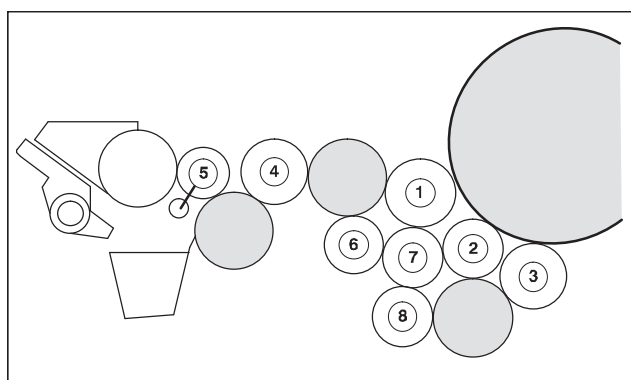

Fig. 43 Roller diagram
1. Remove the 3rd ink transfer roller (Fig. 43/7), in order to check the ink stripes of the 1st (1) and 2nd inking form rollers (2) relative to the ink distributors.